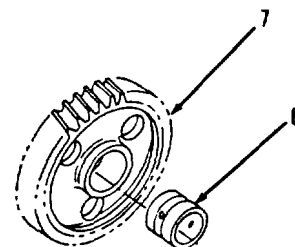

Figure 3-22.
If maintenance is required, use an arbor press to remove bearing (6) from gear (7, Figure 3-22).